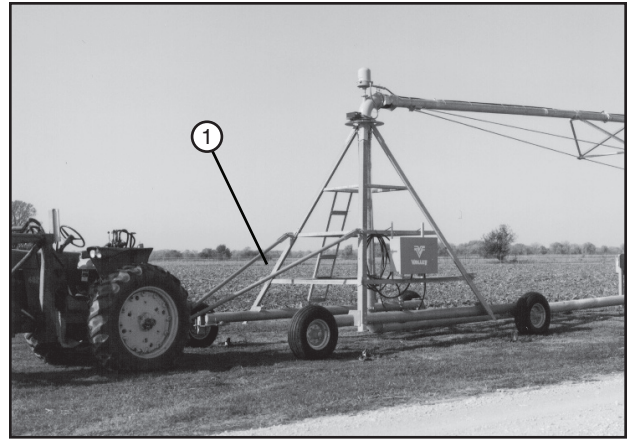

Figure 57-1 1. Tongue
11. Hook tongue to the towing unit. See figure 57-1.